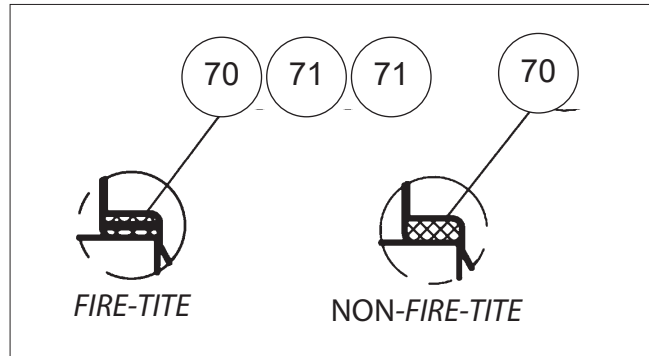

Figure 4. Stem Bearing Orientations
7. For Fire-tite®, Place the stem bearings (70) and secondary stem seal (71) as shown in **Figure 4** on the stem. For non *Fire-tite* place the stem bearing (70) on the stem. See How to Order Section to determine proper valve construction.